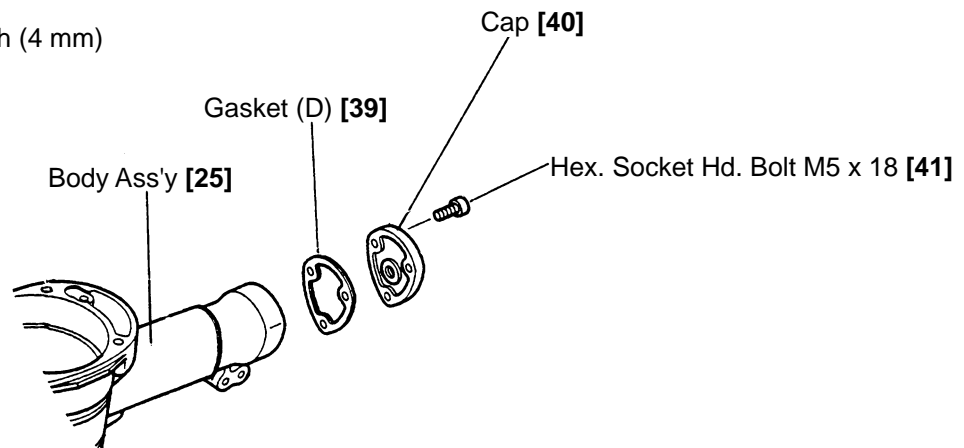

Fig. 19
(1) Disassembly and reassembly of the cap (See Fig. 19.)